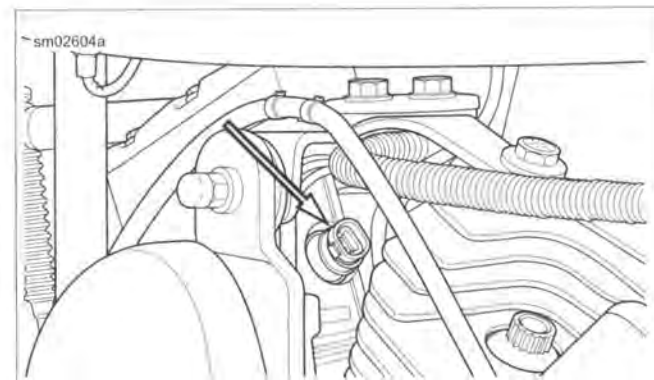

Figure 4-16. Engine Temperature Sensor
4. See Figure 4-16. Pull back boot to reveal ET sensor at back of front cylinder.